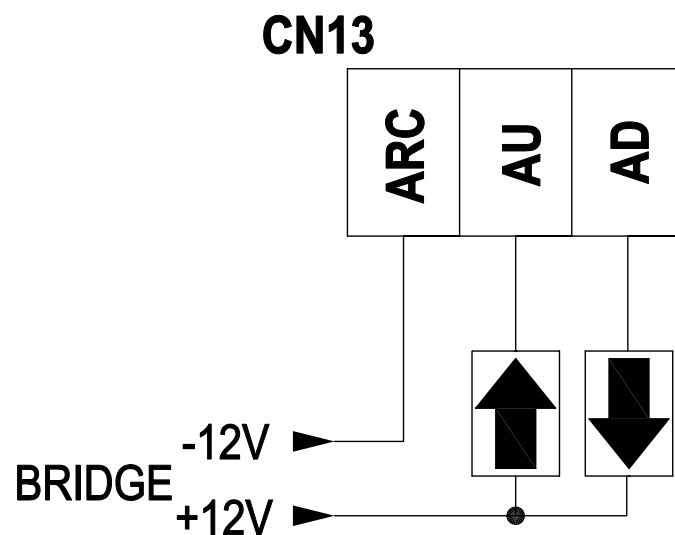

Figure 14.0 -XC-DUP-GL Arrow Signals Connections
The terminals of the Arrows (Up and Down) are connected as illustrated in Figure 14.0.
- Figure 14.0 illustrates the installation and wiring of the Arrow Signals.